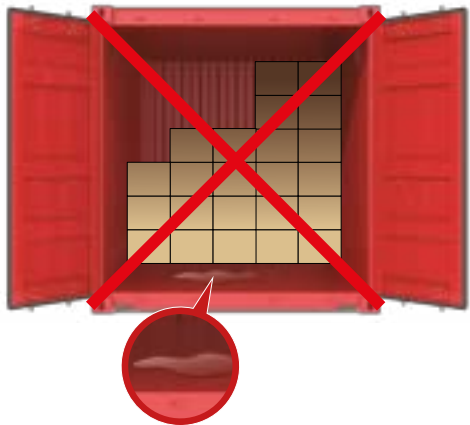

Figure 40: Only containers in good condition are accepted at F&H's terminals.
**OSS** = Pallet box (Please see figure 40 on page 40)